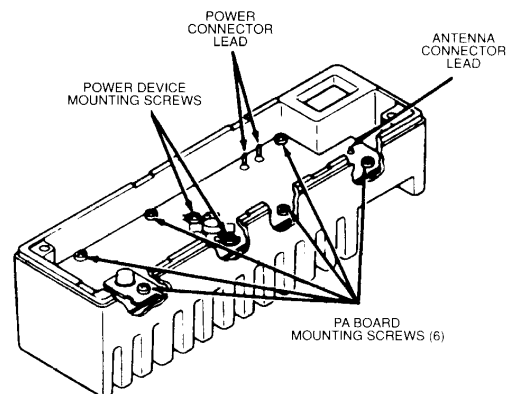

Figure 1-9.
3. Unsolder the A+ power connector feed-thru leads and the antenna connector lead (Figure 1-9).
5. Remove two power device mounting screws and all PA board mounting screws (Figure 1-9), and then take out the PA board.